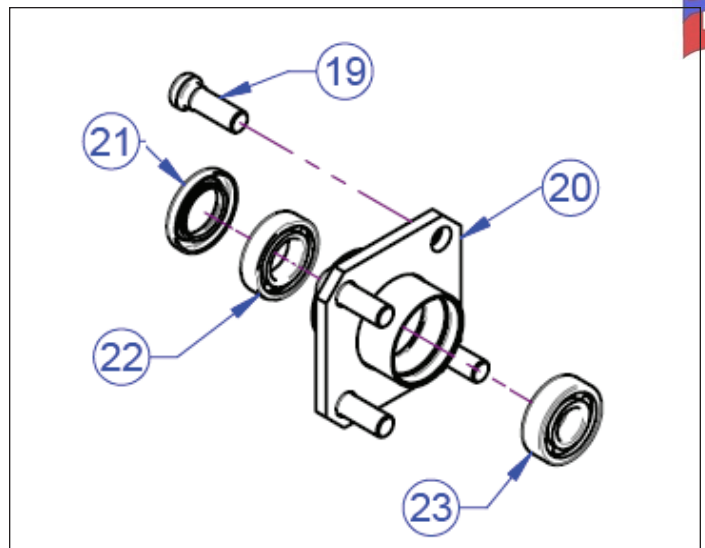

Figure 6-3. Front Hub and Bearings
1. Use a good quality commercial puller to remove bearing (23, Figure 6-3).